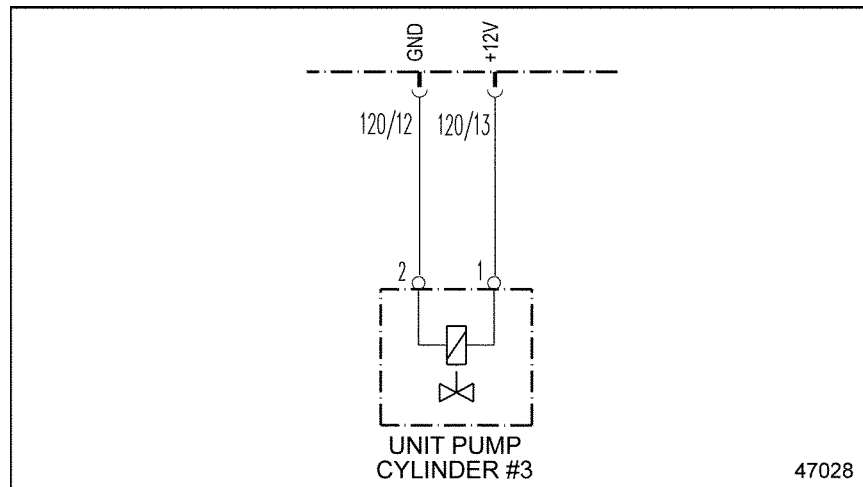

Figure 46-2 Electronic Unit Pump #3
3. Disconnect pins 1 and 2 of Electronic Unit Pump #3. See Figure 46-2.